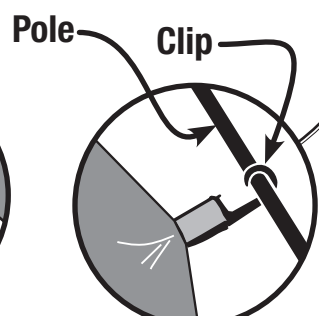

Fig. 5
- Attach clips along the edges of tent to poles. (Fig. 5)